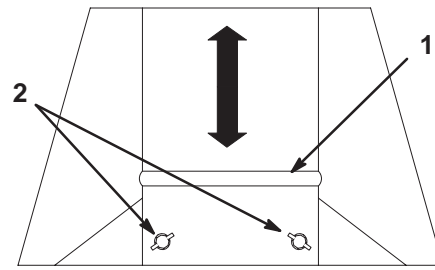

Figure 7
2. Loosen the 2 nuts on the mowing conditions plate and slide the plate up if you are mowing short, dry grass or down if you are mowing long, wet grass (Fig. 7). Tighten the nuts.